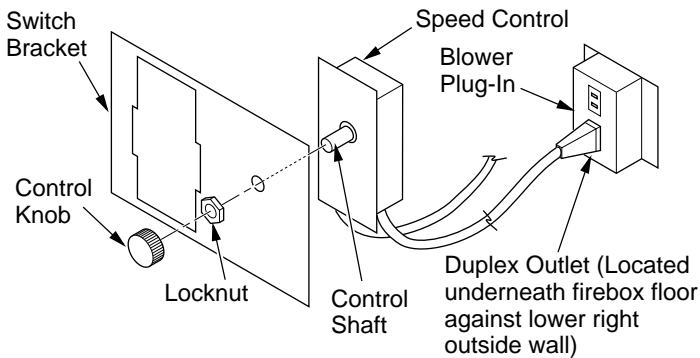

Figure 26 - Attaching Speed Control to Firebox
5. Mount speed control box to switch bracket by placing the plastic control shaft forward through the opening in the switch bracket (see Figure 26, page 17).
5. Mount the speed control box against the mounting plate provided in the lower fireplace cavity by placing the plastic control shaft forward through the round hole (see Figure 26).
6. While supporting speed control, secure control shaft with lock nut by pushing and turning lock nut with pliers clockwise until it is tight against mounting plate. Place control knob provided on shaft (see Figure 26).